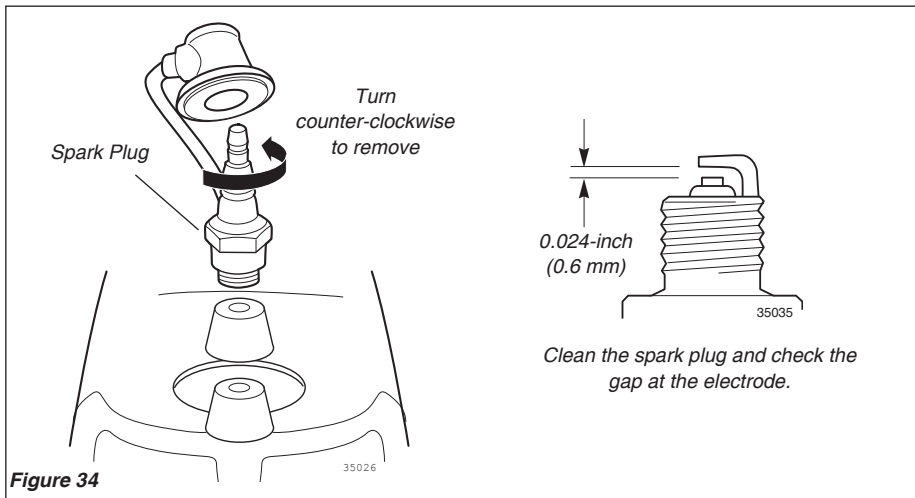

Figure 34
- Adjust the spark plug electrode gap to 0.024-inch (0.6 mm). If the plug must be replaced, use only a Champion CJ8 or equivalent spark plug of the correct heat range. See Figure 34.